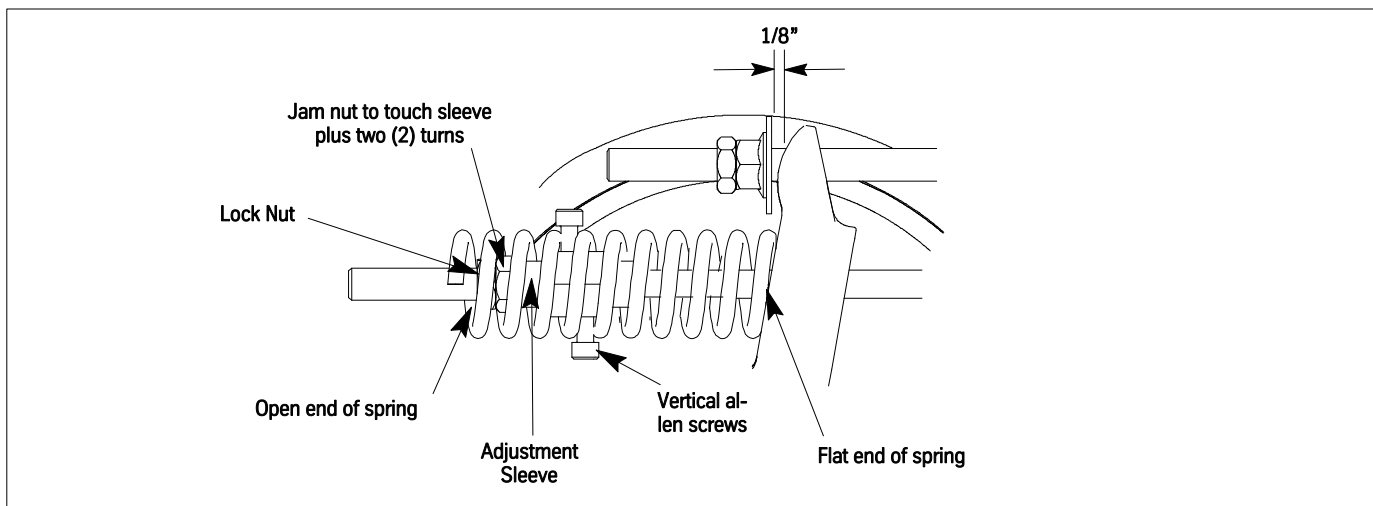

Figure 8 - Spring Tension and Stop Clearance Adjustment
1. Place the springs and adjustment sleeves (for the face rollers) over the studs. Make sure the studs are straight and tight. For this and all remaining steps in this procedure, See Figure 8.
2. Put on the jam nuts and the lock nuts and tighten until they come into contact with the adjustment sleeve; then turn two (2) more times. Verify that the allen set screws are set vertical, and then tighten the locknut.